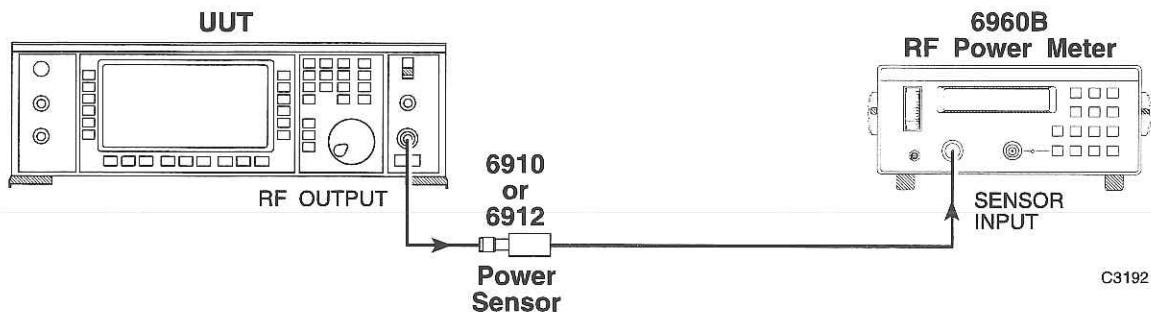

Fig. B-1 Equipment configuration for pulse modulation adjustment
| Fig. B-1 Equipment configuration for pulse modulation adjustment | App. B-2 |
- (1) Connect the RF OUTPUT socket on the UUT to the sensor input. Connect the sensor output to the power meter input. Equipment configuration is shown in Fig. B-1.